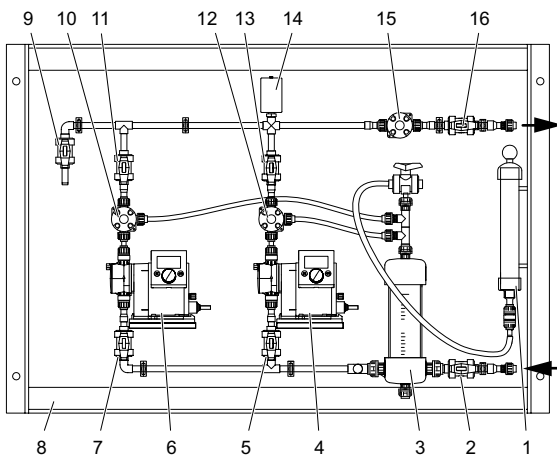

Fig. 1 Example of a DSS system
- Keep all isolating valves closed, that are not in the line between the dosing medium inlet and the injection point, e.g. valves (pos. 7, 10, 11) of standby pump (pos. 6) and drain/flush valve (pos. 9). See fig. 1.